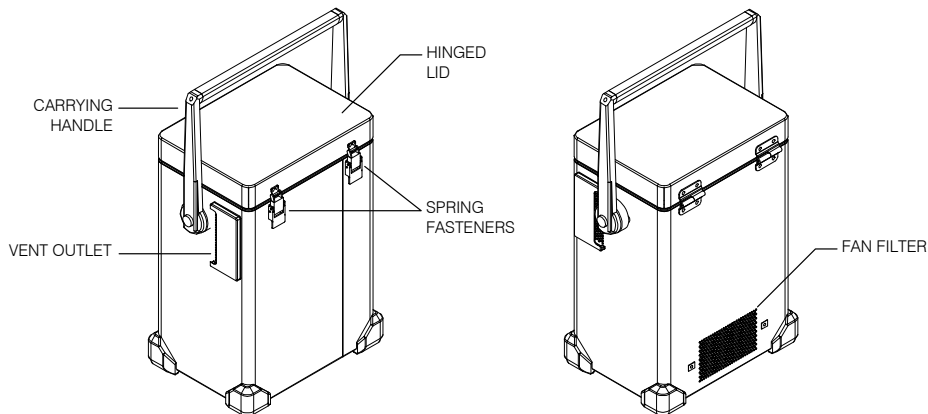

Figure 2-2 The MS5800 case
The MS5800 case (see Figure 2-2) is strictly a protection shell. The card cage and power supply are attached to the front panel, and the complete assembly may be pulled out as a single, fully functional unit. All electronics is on plug-in boards, with the exception of the modular power supply.
The handle on the MS5800 unit (see Figure 2-2) can be used to lift and carry the instrument, but can also be used as a stand to support the instrument. When it is used as a support, the front panel end is slightly raised, for easier access and visibility.
- a) Lift spring fasteners to open the hinged lid (see Figure 2-2 on page 24).